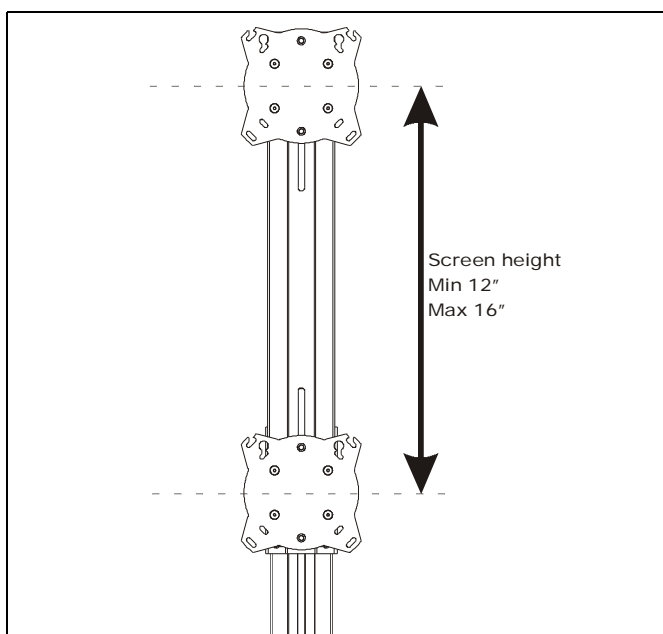

Figure 9
**IMPORTANT !** : In order to install displays with no gap in between displays, distance between faceplates must equal the height of each display. (See Figure 9)
**NOTE:** Faceplates may be positioned a minimum of 12" apart and a maximum of 16" apart. (See Figure 9)